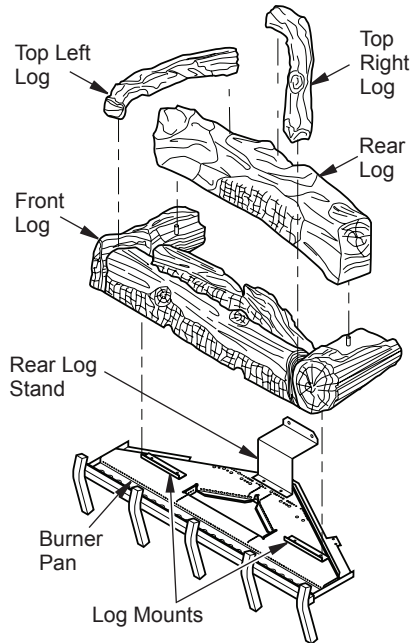

Figure 46 - Installing Logs
1. Position the base log onto burner log mounts (see Figure 46). **Note:** The cut out on the bottom should fit over the mounts and the base log should be positioned against the rear panel.
2. Position the holes on the bottom of the rear log over the pins on the base log (Figure 46).
3. Position the top left log and top right log onto the rear log and base log as shown in (see Figure 46).